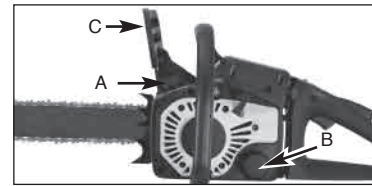

Fig. 8
1. Fill the fuel tank (A) with correct fuel mixture. (Fig. 8).
2. Fill the oil tank (B) with correct chain and bar oil (Fig. 8).
3. Be certain the chain brake is disengaged (C) before starting unit (Fig. 8).